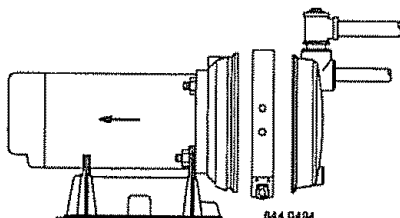

Figure 18 - Slide Motor Back
Pump and piping need not be disconnected to repair or replace motor or seal (see Figure 18). If motor is replaced, replace the shaft seal (Key No. 6, Page 11). Keep one on hand for future use.
2. Remove clamp (see Figure 18).
3. Remove pump base mounting bolts. Motor assembly and back half of pump can now be pulled away from pump front half (Figure 18). **CAREFULLY** remove O-Ring.